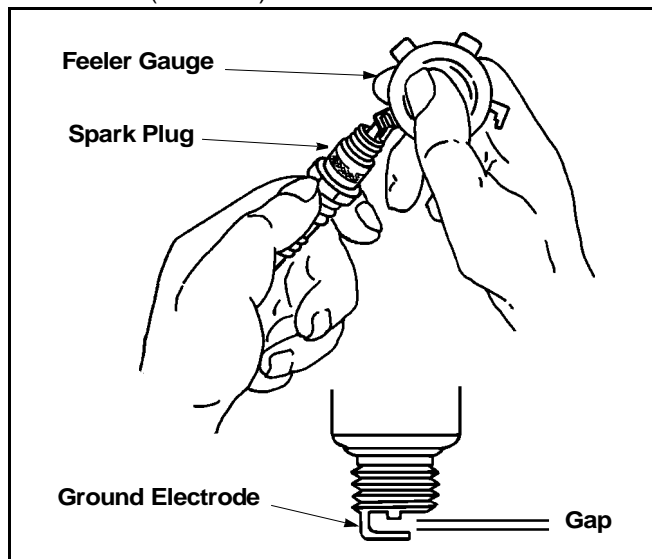

Figure 22
- Check the gap using a feeler gauge and adjust, if necessary, by carefully bending the ground electrode. See Figure 22. Set the spark plug gap to 1.0 mm (0.040 in.).